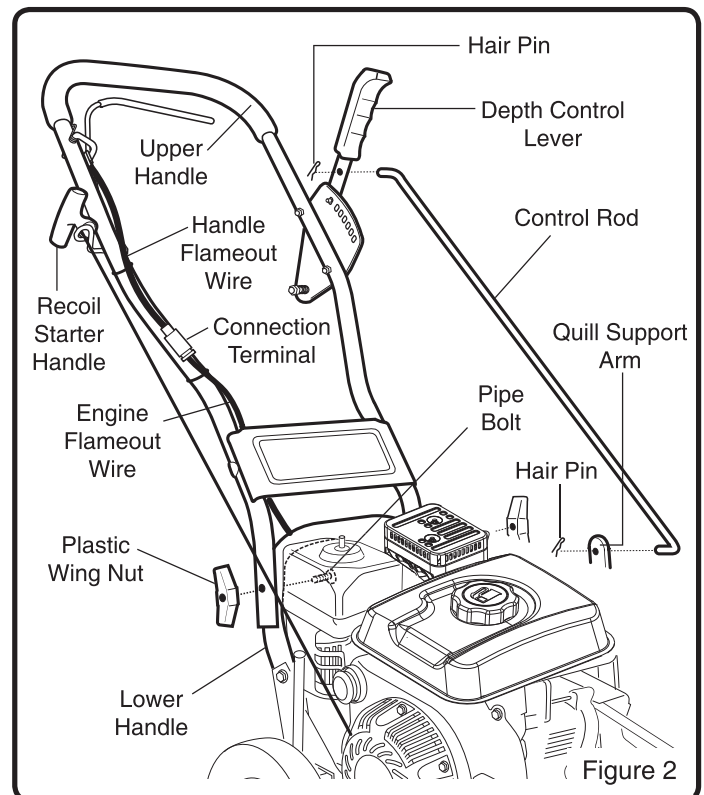

Figure 2
**NOTE:** Refer to Figure 2 when following steps below:
1. Assemble the upper handle to the lower handle with the (2) pipe bolts and the (2) plastic wing nuts. Firmly hand-tighten the wing nuts.